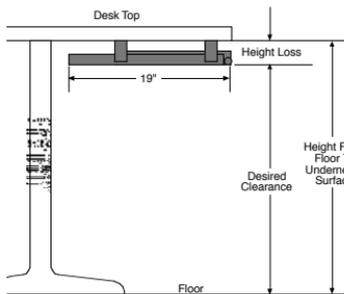

Figure 2.
B. Alternatively, you may use Chart B and Figure 2 to determine what height is desired to allow a knee clearance or chair clearance, underneath the keyboard after installation.